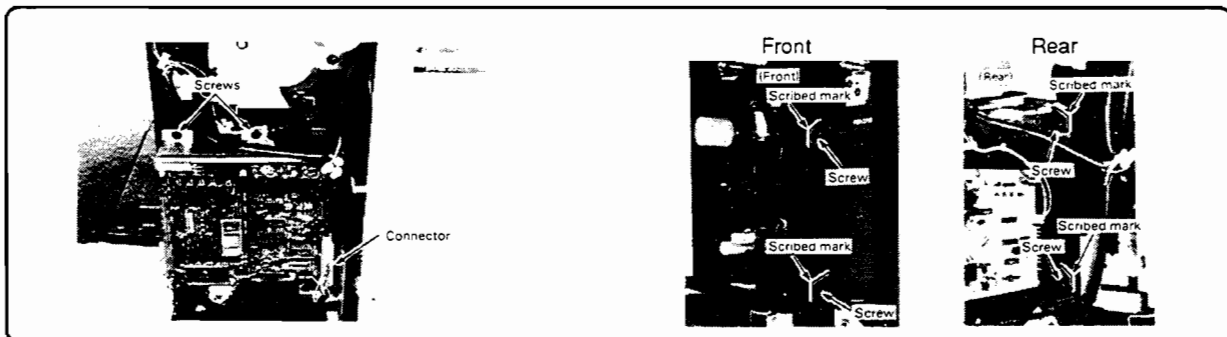

Figure 6-134. Removing PDDU PCA and Marking PDX Position
6. Unplug the connectors from the PDX driver PCA at the PD/DU controller PCA and remove the two screws; then remove the PD/DU controller PCA with its mounting plate (Figure 6-134).
7. Mark the position of the paper deck unit; then remove the four screws (Figure 6-134).